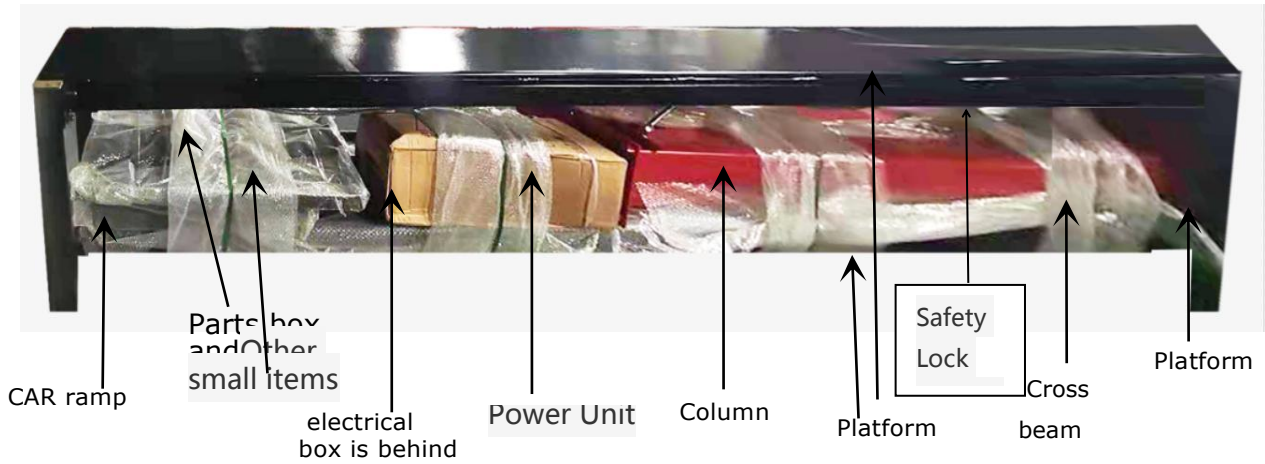

Fig.5(Note: Parts may be located in different parts in different batches)
2. Open the outer packing carefully(See Fig. 5).